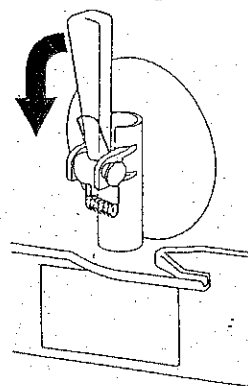

Fig. 6
3. Place a receptacle under each faucet and dispense all product from the barrels by pulling downward on the dispensing handles (Fig. 6) to empty the machine.